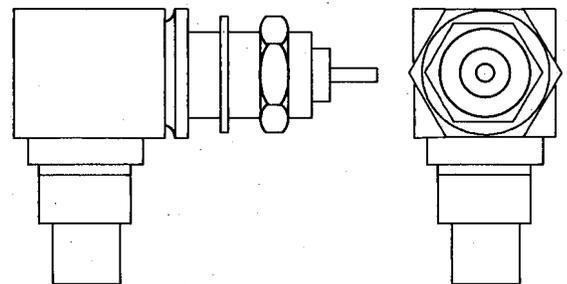

Fig. 7—KS-19758, L1 Connector
2.07 KS-19758, L1: The KS-19758, L1 (Fig. 7) is a miniature, 50-ohm, coaxial, screw-on, right-angle, panel-mounted connector. This connector will mate with the KS-19759, L1 connector. The connector is used in the TD-3 Radio System.